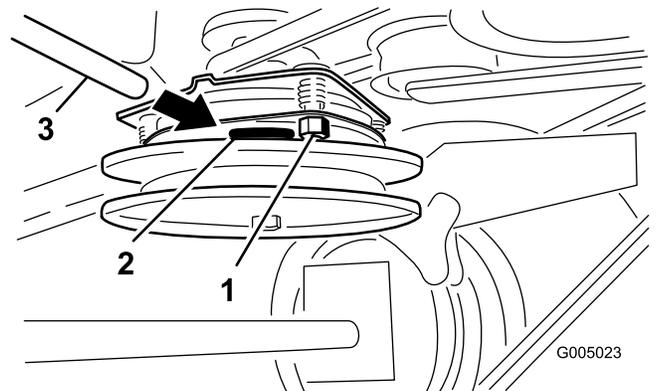

Figure 46
- Tighten the lock nuts until there is slight binding on the feeler gauge but it can be moved easily within the air gap (Figure 46).